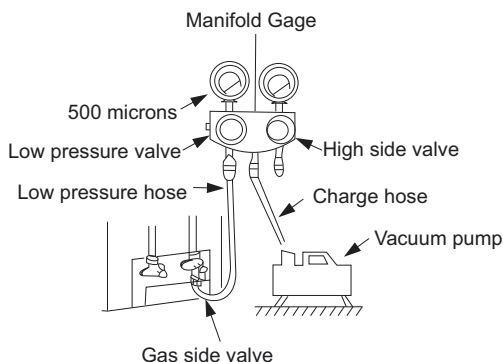

Fig. 7 – Manifold
- 3 Fully open the low pressure valve of manifold gage (see Fig. 7).